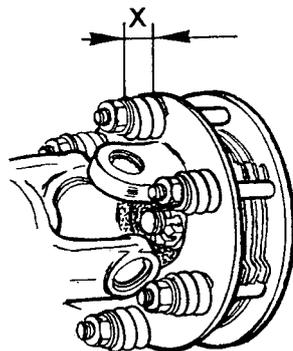

Fig. 28
- According to the power of the tractor used, adjust the spring length in accordance with the dimensions given here (turns of nuts and maximum length of springs) (See Fig. 28 and 29).